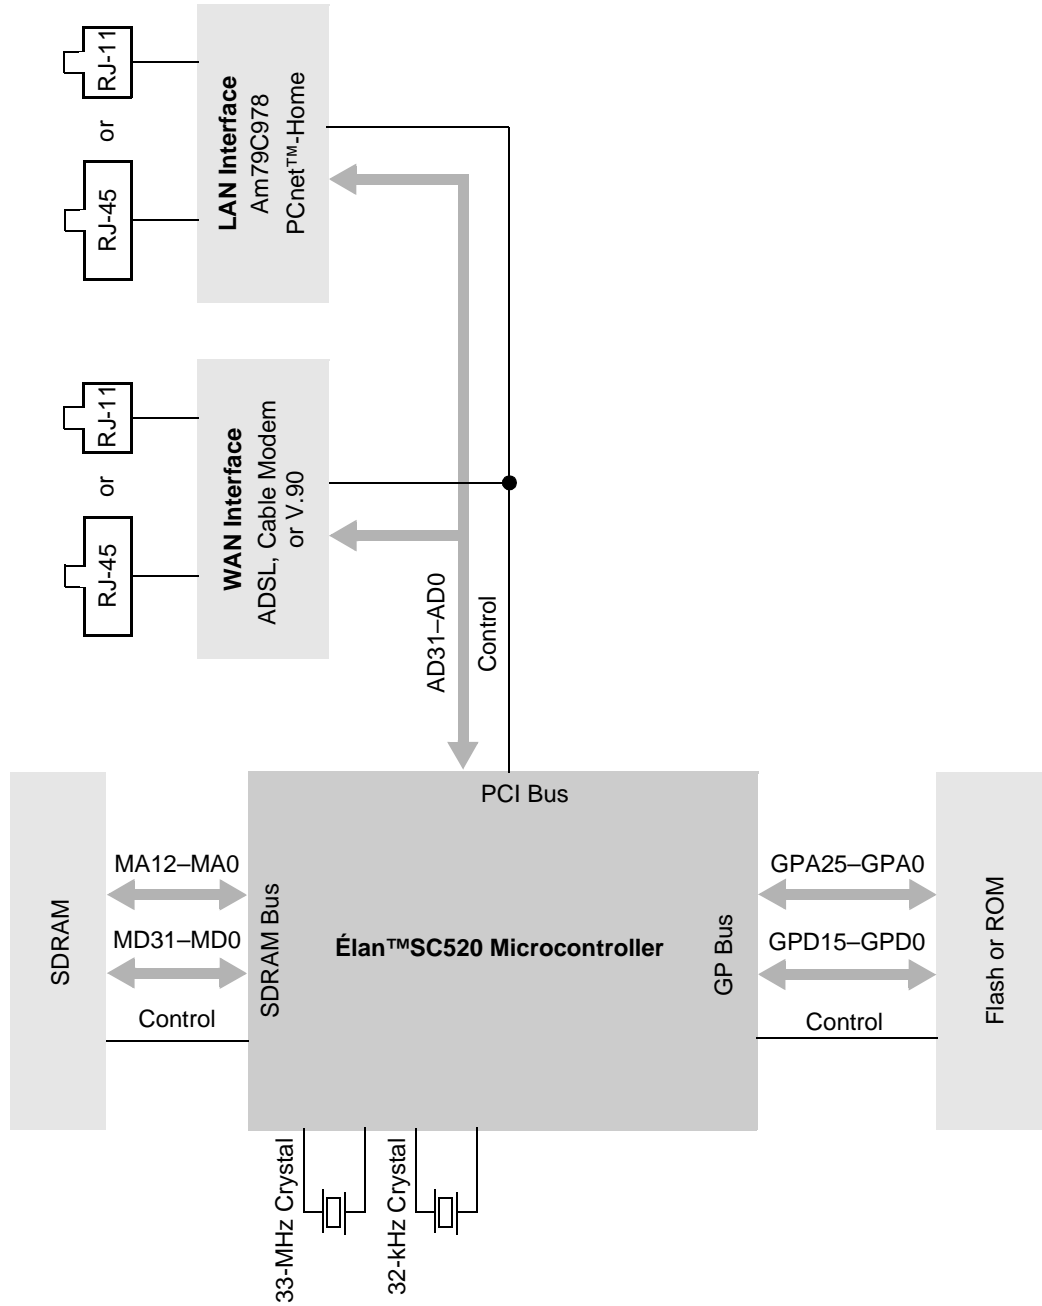

Figure 2. Élan™SC520 Microcontroller-Based Smart Residential Gateway Reference Design
- Figure 2 on page 34 shows an ÉlanSC520 microcontroller-based Smart Resident Gateway (SRG), which is a router for a home network between the wide area network (WAN) (the internet) and a local area network (LAN) (an intranet of computers and information appliances in the home). The SRG provides firewall protection of the LAN from unauthorized access through the internet. A common internet access medium is shared by all users on the LAN.